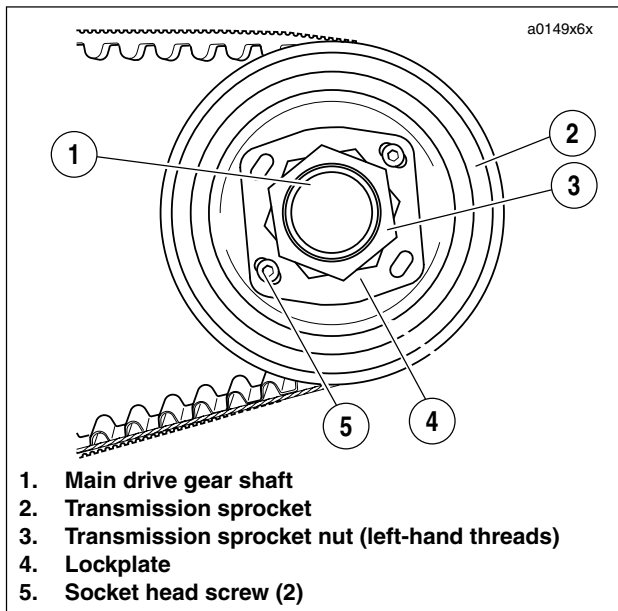

Figure 6-57. Transmission Sprocket
1. See Figure 6-57. Place transmission in first gear. Remove two socket head screws (5) and lockplate (4).
2. See Figure 6-57. Remove transmission sprocket nut (3) from main drive gear shaft (1).
1. See Figure 6-57. Install transmission sprocket (2) with secondary drive belt onto main drive gear shaft (1).
3. Apply a few drops of LOCTITE 262 (red) to the **left-hand threads** of transmission sprocket nut (3) and lightly coat the washer-faced side with clean H-D 20W50 engine oil. Wipe off any excess oil.
9. See Figure 6-57. Install lockplate over nut so that two of lockplate's four drilled holes (diagonally opposite) align with sprocket's two tapped holes.
11. See Figure 6-57. Install two socket head screws through aligned holes of lockplate and into tapped holes of sprocket. Tighten to 90-110 in-lbs (10-12 Nm).